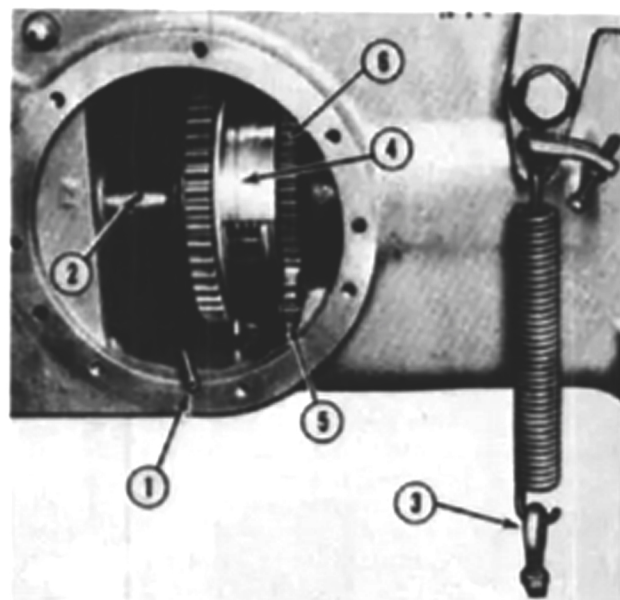

Fig. 63 - View of pto clutch, pump drive gear, lower pto drive shaft and lube pump gear on Models 684, 784 and 884.
Unbolt and remove side pto clutch cover. Refer to Fig. 63 and drive roll pin (1) from the pto clutch and 1000 rpm output shaft (dual speed) or lower pto
each item. Install key (31), then install clutch assembly and secure with snap ring (7). Insert selector spool (22) with collar (21) and retaining ring (20). Install the TA assembly into clutch housing. Install pto input shaft and bearing. Renew "O" ring and oil seal in the input shaft bearing housing, then install the bearing housing. Apply "Loctite" sealant to the cap screw threads and tighten cap screws securely. Install TA driven gear (42) and pump gear (43) on countershaft (40) and secure with snap ring (44). Position pto driven gear in bottom of clutch housing and move shaft forward through gear and front bearing. Install snap ring on front of shaft and using a new gasket, install the cover. Use "Loctite" on cap screw threads and tighten securely. Use new gasket and reinstall speed transmission top cover. Install TA pump assembly as in paragraph 75. Refer to Fig. 63, install gear (6) on rear of pto driven shaft and secure with snap ring. Install pto clutch assembly (4) and install 1000 rpm output shaft (dual speed pto) or lower pto drive shaft (single speed pto). Install pto lower bearing flange on rear of main frame. Drive roll pin (1) into pto clutch cup gear hub and